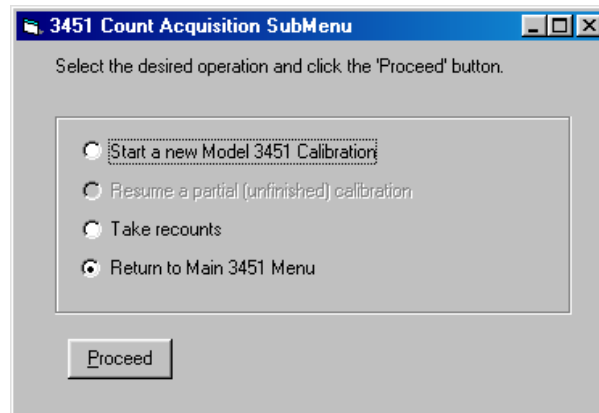

Figure 4–15. Count Acquisition SubMenu, after Calibration Counts are Complete
38. Now that the drift test has passed, the calibration data collection is complete. The **3451 Count Acquisition SubMenu** will again be displayed with the options shown in Figure 4–15. From the **Main Menu** you will be able to initiate the process of reviewing the data just collected. Select the fourth option, **Return to Main 3451 Menu**, click **(P)roceed**, and then proceed to the next section, *Computing Calibration Constants*.